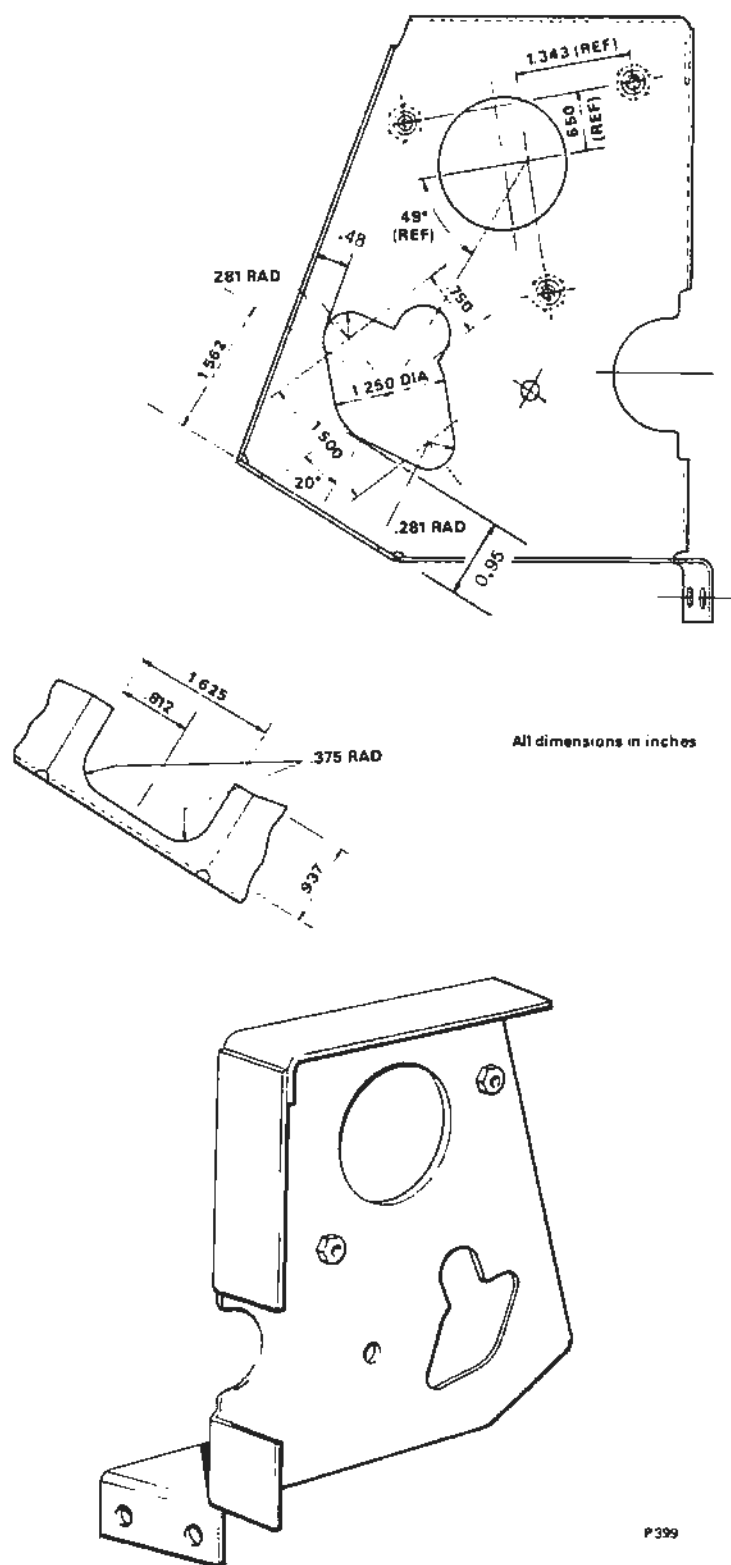

FIGURE 1
2. Place the flange of the new water tap on to the mounting plate in the position indicated in Figure 1. Mark a line around the flange and rework to produce a clearance hole through the plate.